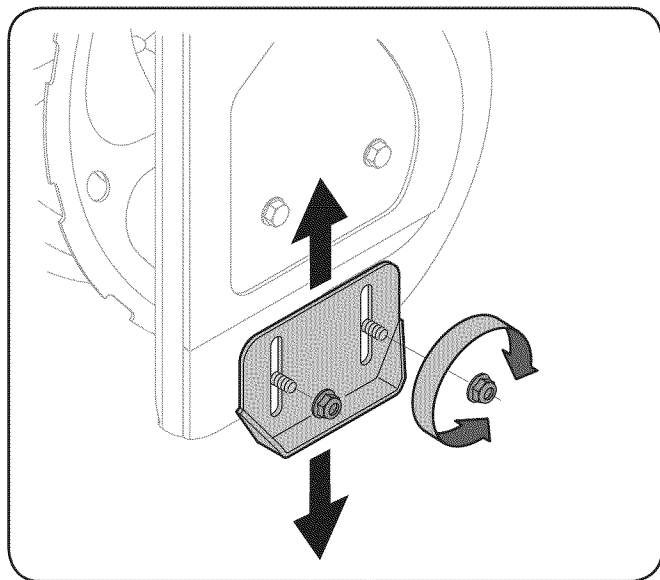

Figure 3-6
1. Loosen the four hex nuts (two on each side) and carriage bolts. Move skid shoes to desired position. See Fig. 3-6.